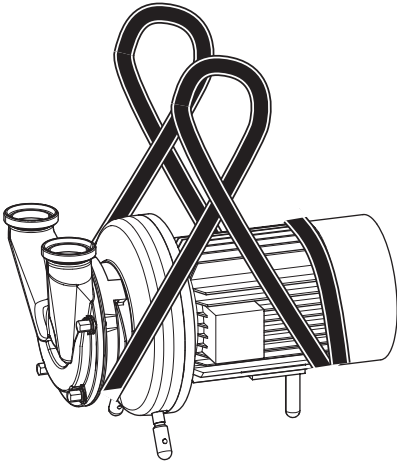

Fig. 15 Moving with crane
1. Wrap the round sling twice around the back end of the motor. Do not lay over the fan shroud (see Fig. 15, "Moving with crane," page 11).